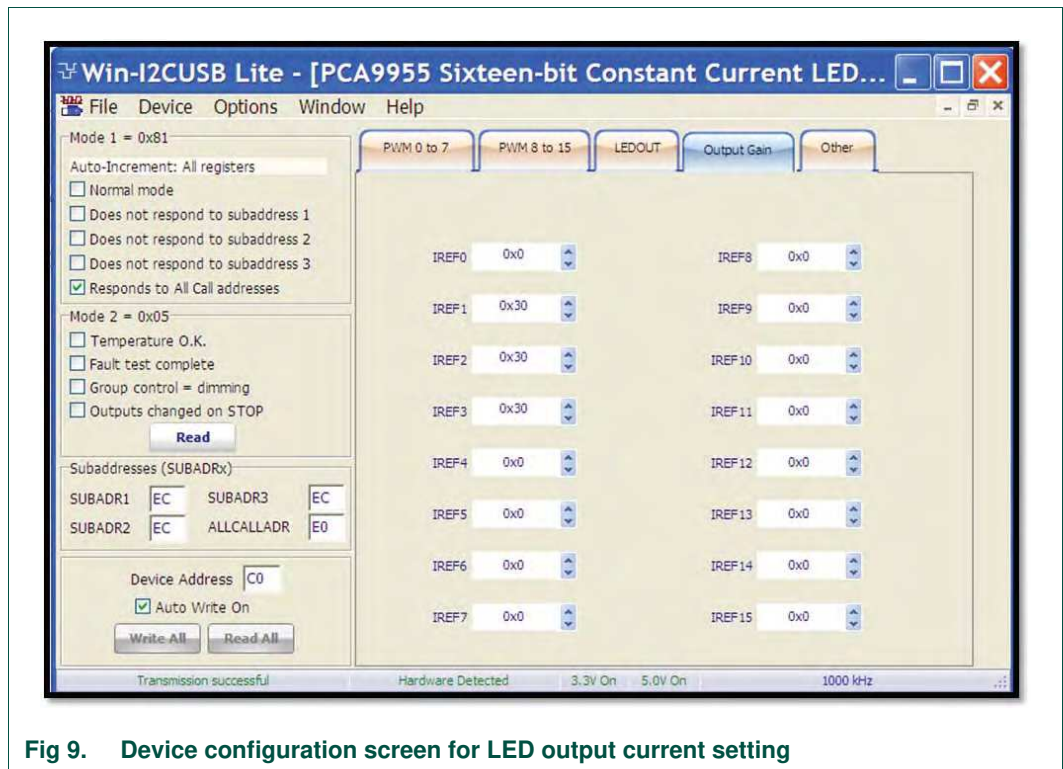

Fig 9. Device configuration screen for LED output current setting
- 'Output Gain' LED output current setting for LED0 to LED15 as shown in Figure 9.
- 5. Click the 'Output Gain' configuration screen and adjust the IREF[1:3] = 0x30 for LED[1:3] output current at 3.8 mA = 48 × 80 μA (see Figure 9).